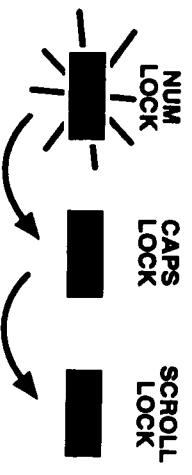

Figure 5-1. The configuration-mode LED pattern.
- **Configuration-mode indicator—rolling sequence.** As shown in Figure 5-1 below, Unit B flashes the Num Lock, Caps Lock, and Scroll Lock LEDs on the attached primary keyboard in sequence to show that it's in configuration mode (see Section 4.2.2). Num Lock will light first while Caps Lock and Scroll Lock are dark. Then Caps Lock only will be lit, then Scroll Lock only, and then Num Lock again. The cycle repeats itself continuously until you exit configuration mode, after which the LEDs will be placed back in the states they were in before you went into configuration mode.